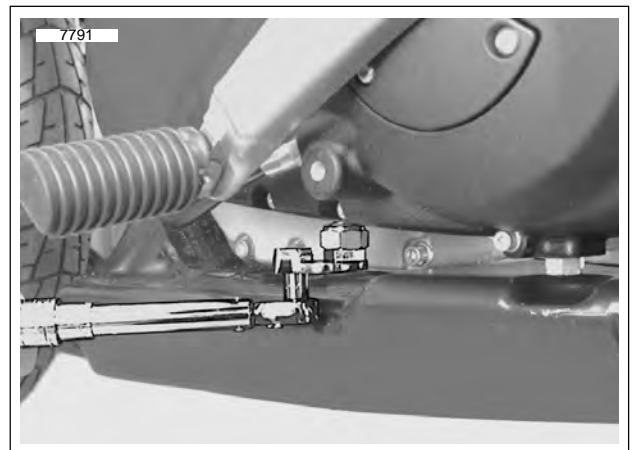

Figure 1-23. Tightening Chain Limiting Screw
2. See Figure 1-23. Tighten chain limiting screw to 24 in-lbs.